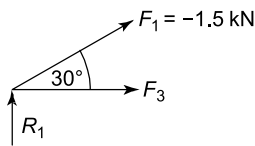

Figure 7.29
Considering joint (2), as it now has two or less unknown forces; see Figure 7.29.